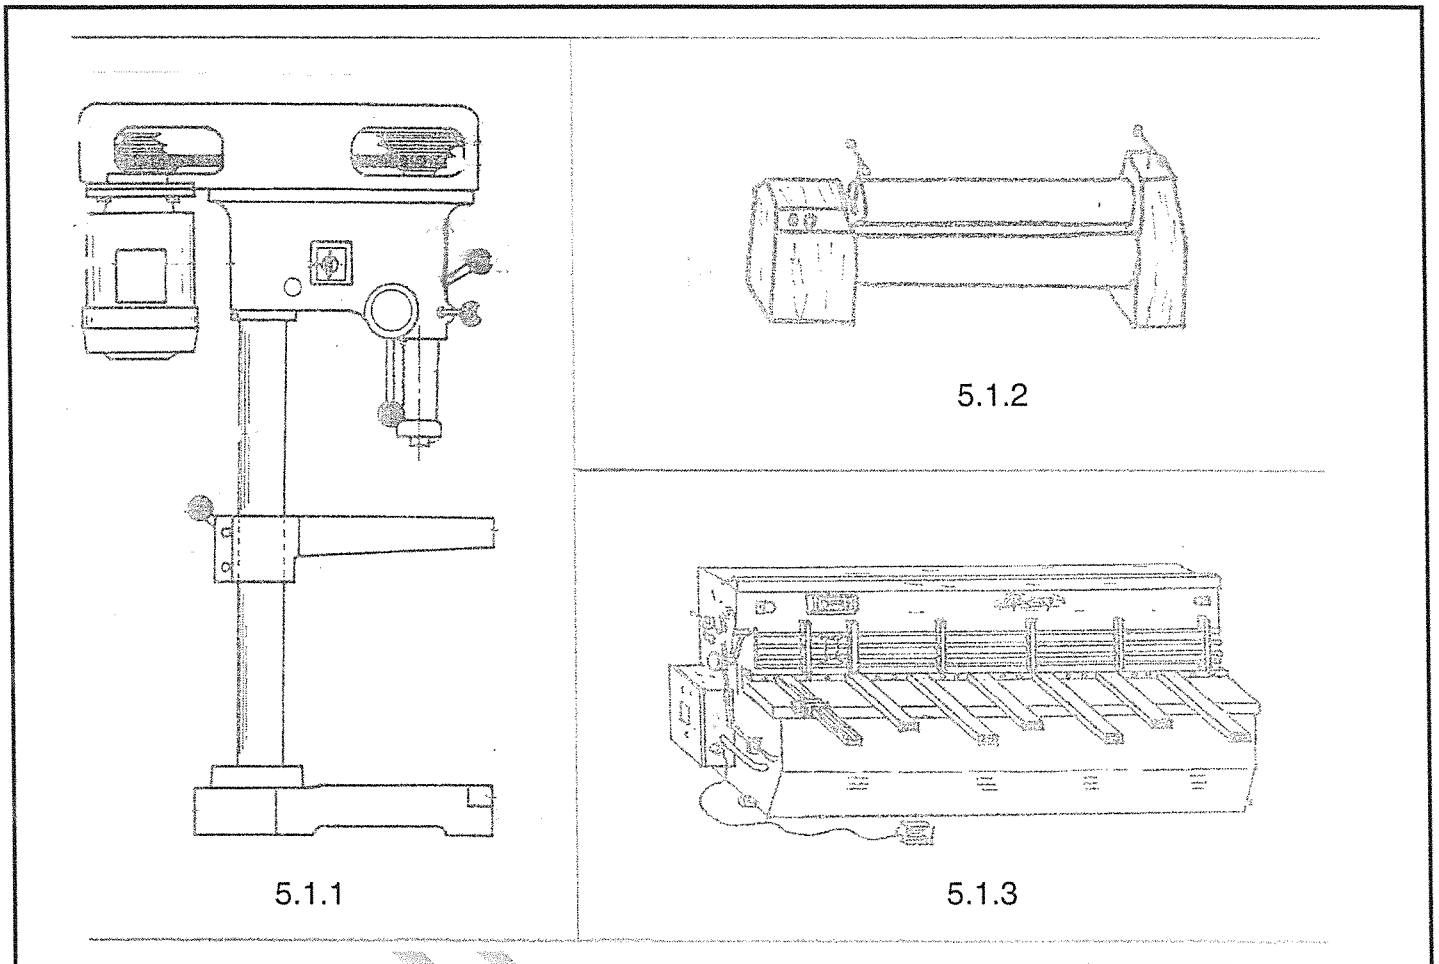

FIGURE 2
- 5.1 FIGURE 2, DIAGRAM SHEET 2 (attached) shows three machines used in a metal workshop.